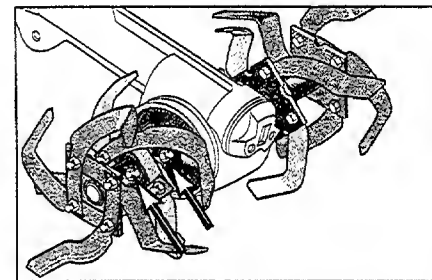

Figure 5-3A: Tine holder hardware must be tight.
Most hardware on your tiller is visible. Pay particular attention to hardware shown in Photos 5-1, 5-2, 5-3, and Figure 5-3A.
7. Check the four bolts and nuts securing left and right tine holders to the tine shaft (Figure 5-3A).